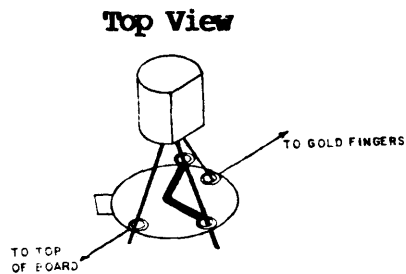

FIGURE 2
- [] Install and solder TEN (10) 0.1 uf monolithic capacitors at locations C1, 2, 5-9, and 11-13.
- [] Install and solder ONE (1) 47-56 pf disc capacitor at location C4.
- [] Install and solder ONE (1) .0033 uf disc capacitor at location C17.
- [] Install and solder TWO (2) 10 uf axial capacitors at locations C3 and C10. **Use caution in installing these components—C3 and C10 MUST have the positive (+) end to the RIGHT side of the board.**
- [] Install and solder ONE (1) 4.7 uf axial capacitor at location C14. **Use caution in installing this component—C14 MUST have the positive (+) end to the LEFT side of the board.**
- [] Install and solder ONE (1) 2N3904 transistor at location Q1. Again, use caution in installing this component; refer to Figure 2 for proper orientation. **Use caution that the lead closest to the bottom of the board DOES NOT touch R8.**